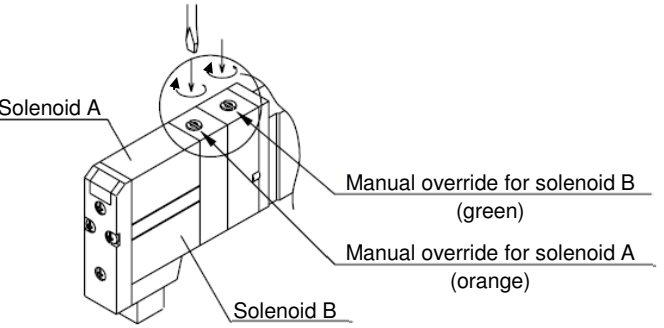

Figure 2
2.5.2 Push-turn locking slotted type (screwdriver operated) (Refer to Figure 2)